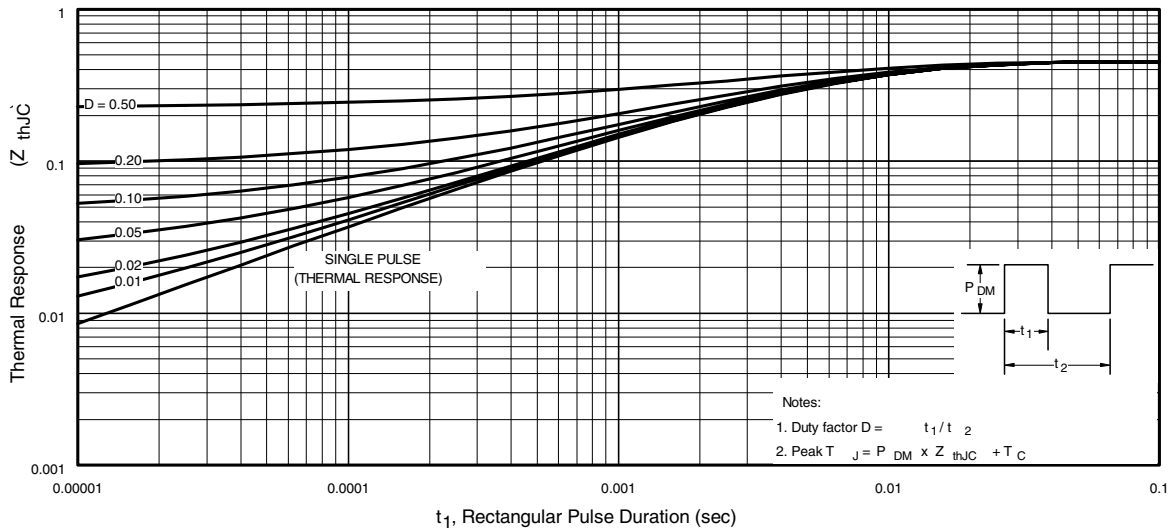

Fig 11. Maximum Effective Transient Thermal Impedance, Junction-to-Case
- ① Repetitive rating; pulse width limited by max. junction temperature. (See fig. 11).
- ② Starting $T_J = 25^\circ\text{C}$, $L = 0.049\text{mH}$
$Z_{thJC}(D, t_{av})$ = Transient thermal resistance, see figure 11)